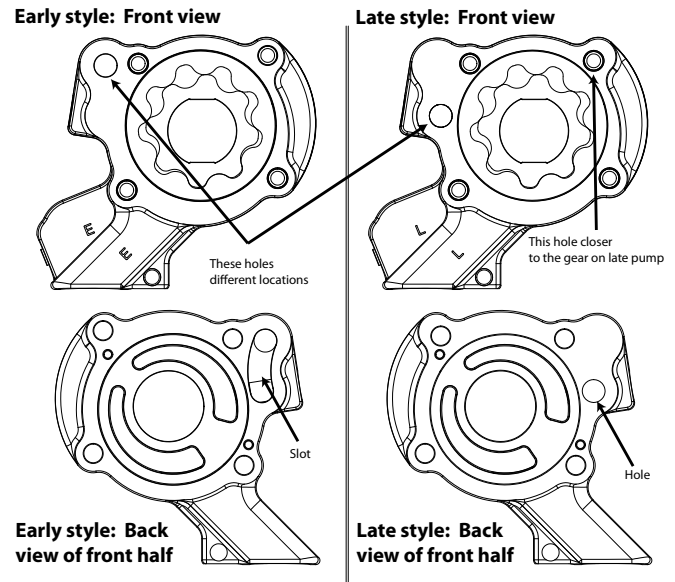

Figure 1
9. Make sure you have the proper pump for the style of cam plate you will be using. Late style and early style pumps have different bolt patterns. One screw located in the upper right corner when looking at the front of the pump is located differently. An early pump can't be used on a late cam plate and a late pump will not fit on an early cam plate. **See Figure 1 below.**